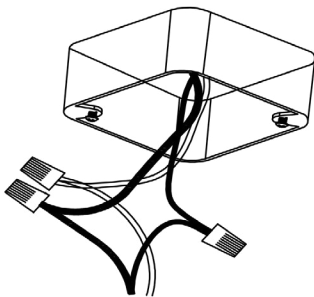

Figure 3
4. While supporting the luminaire body, make electrical connections: black lead to hot (Black) supply lead; white lead to neutral (White) supply lead. Un-insulated wires are ground wires (ground junction box mounting lead and ground luminaire lead) must be connected to grounding terminal or ground (Green) supply lead inside the junction box. Use wire nuts to make connections (Figure 3)